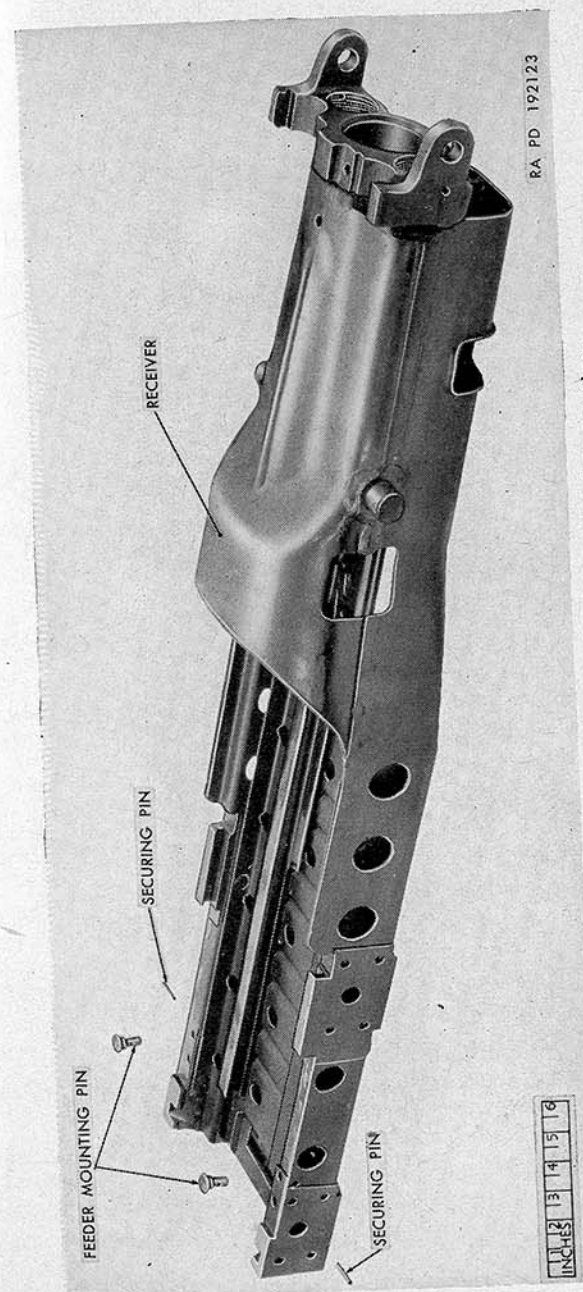

Figure 83. Feeder mounting pins—exploded from receiver.
- (2) Remove feeder mounting pins (fig. 83).
- (1) Install feeder mounting pins in holes at rear of receiver (fig. 83).